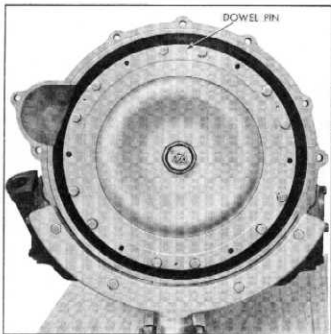

Fig. 142—Positioning of Turbine Cap Screws
15. Install two 5/16"-24 x 1½" guide pins in primary pump bolt holes, align dowel pin hole of turbine cover and dowel pin in primary pump and install turbine cover assembly. Remove guide pins and secure with twelve cap screws (fig. 142). Tighten to 15-20 ft. lbs.